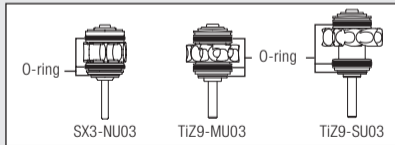

Fig. 35
- Make sure that the O-rings are correctly located on the cartridge (Fig. 35).